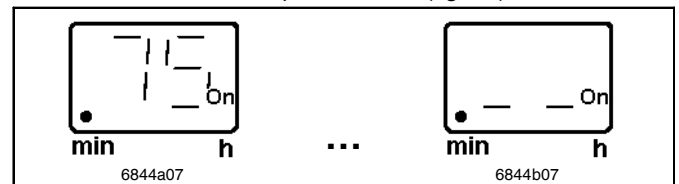

Fig. 29 Display - 25 % reduced lubrication (B)
- Reduction of the lubricant output is represented in the display of the membrane keypad shortly by " 75 ", then by the left-hand decimal point " . - - " (fig. 29):